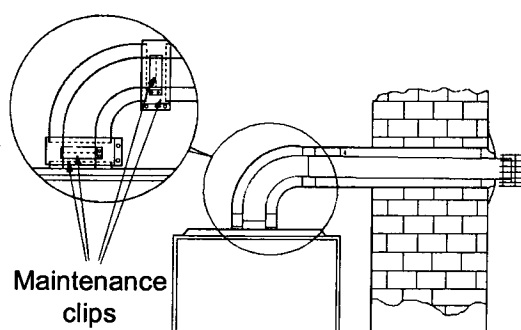

Fig. 34
- 8.16.5 Remove screws on large maintenance clips (fig. 34) and remove clips, loosen screws on the small clips and remove flue elbow.